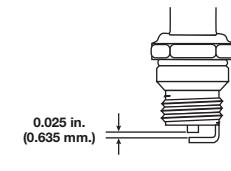

Fig. 38
The recommended clearance for both intake and exhaust is .003 – .006 in. (.076 – .152 mm). Use a standard automotive .005 in. (0.127 mm) feeler gauge. The feeler gauge should slide between the rocker arm and valve stem with a slight amount of resistance, without binding. Figure 38 and 39 show how to measure the clearance.
- Replace cracked, fouled or dirty spark plug. Set the air gap at **0.025 in. (0.635 mm.)** using a feeler gauge (Fig. 38).